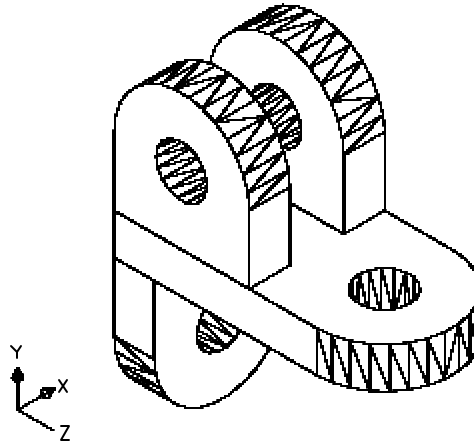

Figure 24-68 Model after creating the next object and moving it
9. Create the next object of the required dimensions and then move it using the endpoints as shown in Figure 24-68.